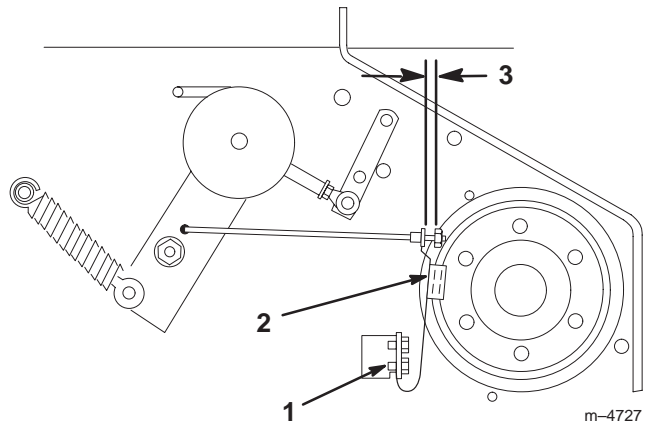

Figure 46
3. If necessary, adjust the spring mounting bolts so that the blade brake pad rubs against the pulley edges (Fig. 46).
4. Adjust the nut at the end of the blade brake rod until there is 1/8-3/16 in. (3-5 mm) between the nut and the spacer (Fig. 46).